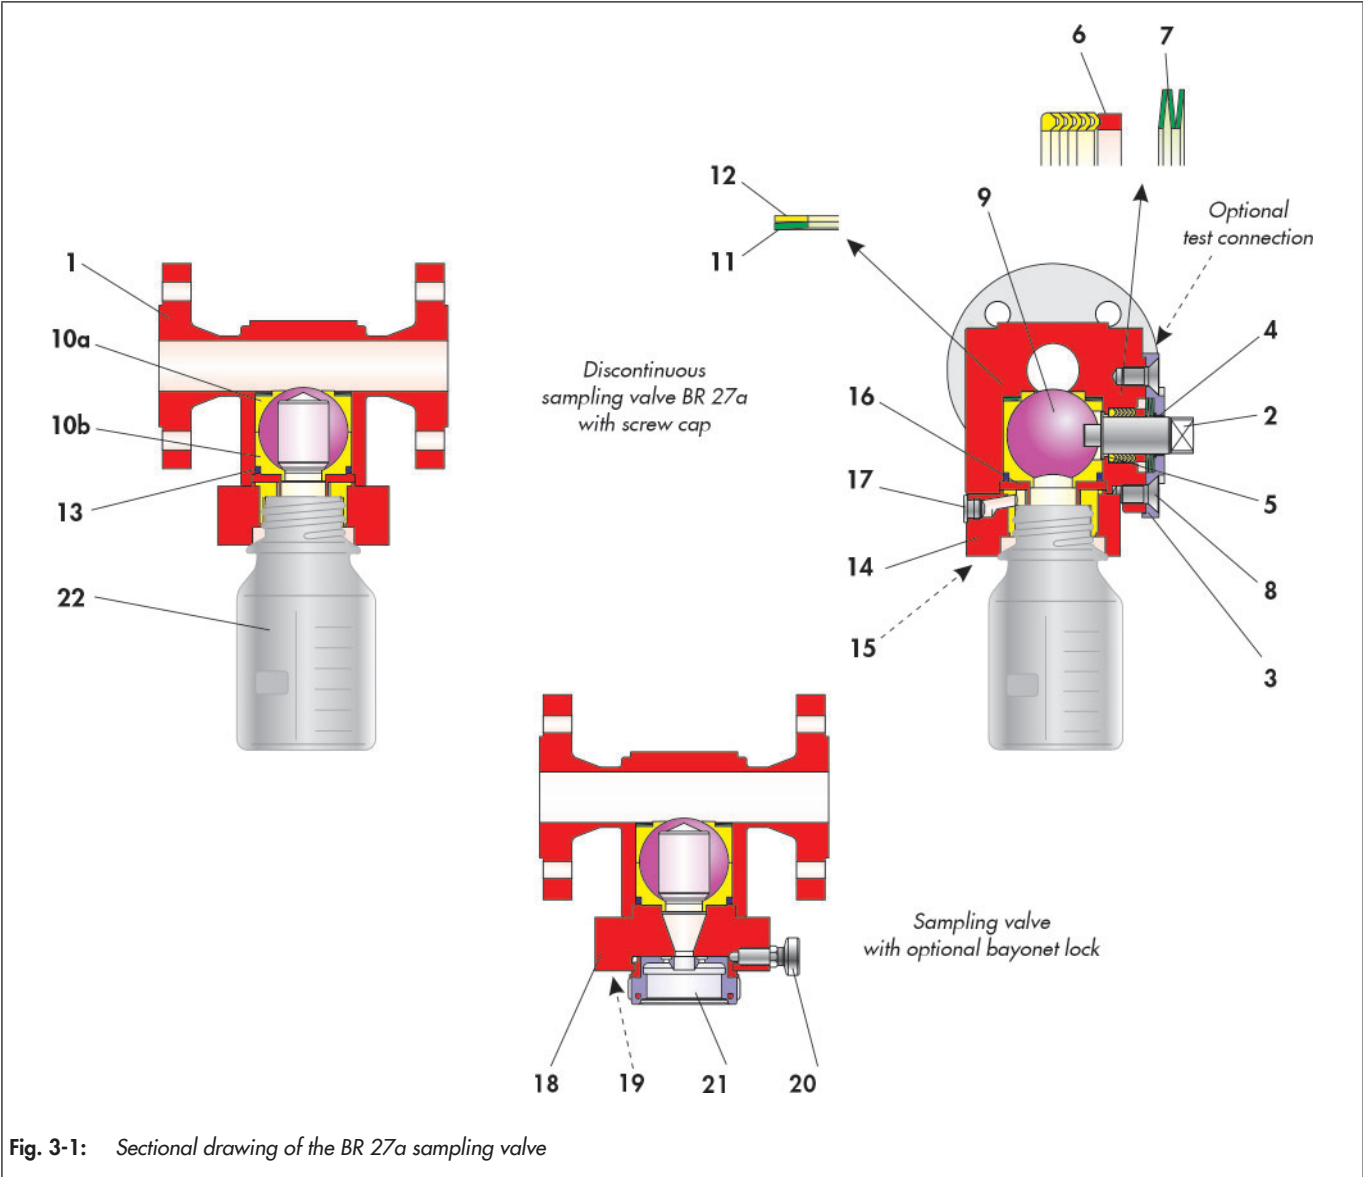

Fig. 3-1: Sectional drawing of the BR 27a sampling valve
The position and arrangement of the individual parts shown in Fig. 3-1 must be observed during assembly.
- ⇒ Clamp the main body (1) with the sealing area of the ball facing upwards in a vice, so that it is accessible for assembly.
- ⇒ The sealing disc (12) and the disc spring (11) are inserted into the body. Position of the disc spring, see Fig. 3-1.
- ⇒ The bearing bush (5) is pressed into its intended position, for the subsequent locating of the stem.
- ⇒ Insert the control shaft (2) through the mounted bearing bush (5) into the shaft bushing.
- ⇒ The sampling ball (9) with the slot is pressed onto the control shaft (2), and with firm evenly applied pressure, the control shaft is turned and pressed until it finally sits in the seat ring (10a).
- ⇒ Insert the O-ring (13) into the seat ring (10b).
- ⇒ The PTFE V-ring packing (6) is inserted together in the body bore in the following order: PTFE bottom ring, PTFE V-rings, and steel V-ring.
- ⇒ Following this, insert the disc spring set (7). For exact positioning and locating of the V-ring packing and spring washers, refer to Fig. 3-1.
- ⇒ Press the bearing bush (4) into the stuffing box flange (3).
- ⇒ Grease the screws (8).
- ⇒ The stuffing box flange (3), together with the bearing bush (4), are mounted, and aligned with the screws (8). Next, tighten the screws evenly and in alternating pattern.